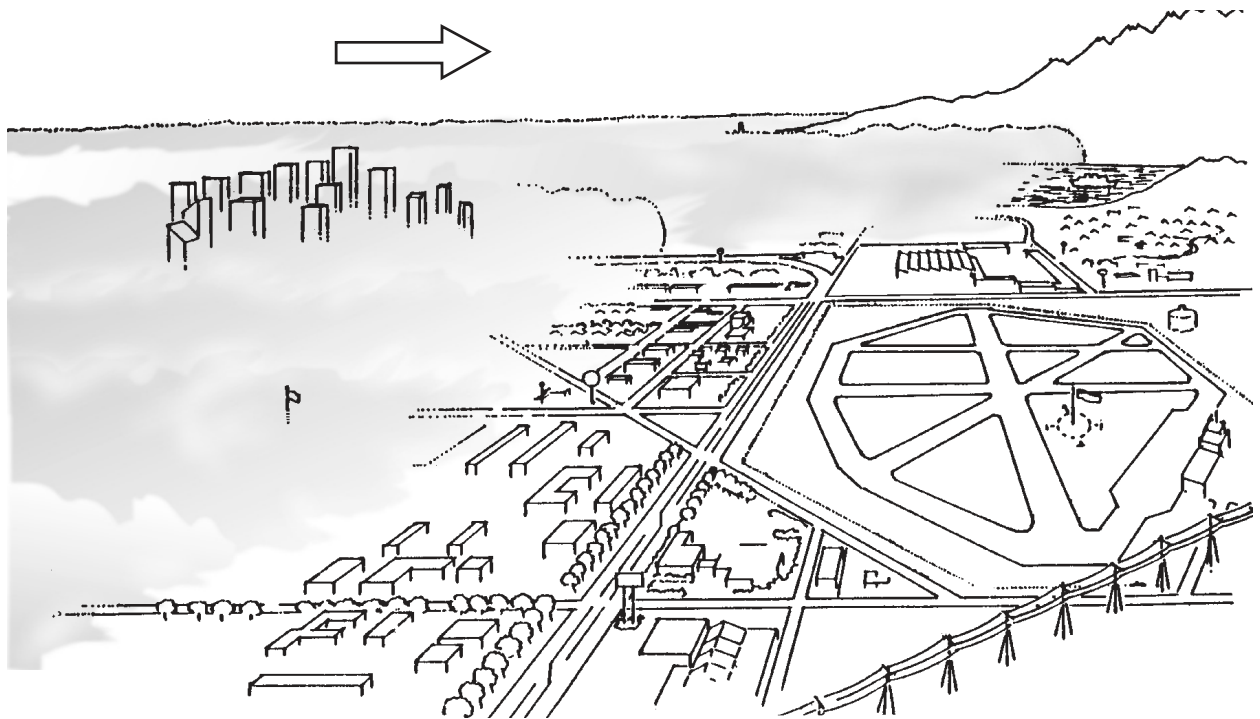

Figure 6-19. Advection fog
*Advection fog* results when moist air moves, and to anticipate it you must consider where the moist air is coming from and what it is moving toward. Typically, the moist air is moving from over water to over colder land; the moist air condenses into fog when cooled by the land (Figure 6-19). The process can be reversed when warm moist air from land moves over cold water.